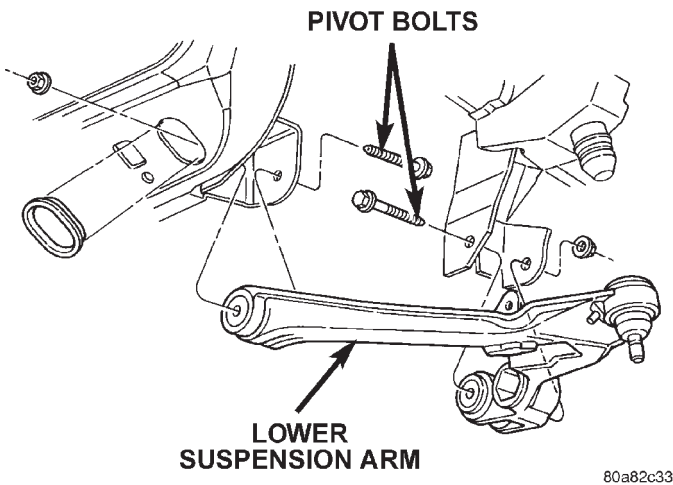

Fig. 8 Lower Suspension Arm
(8) Remove suspension arm pivot bolts and suspension arm from frame rail brackets (Fig. 8).